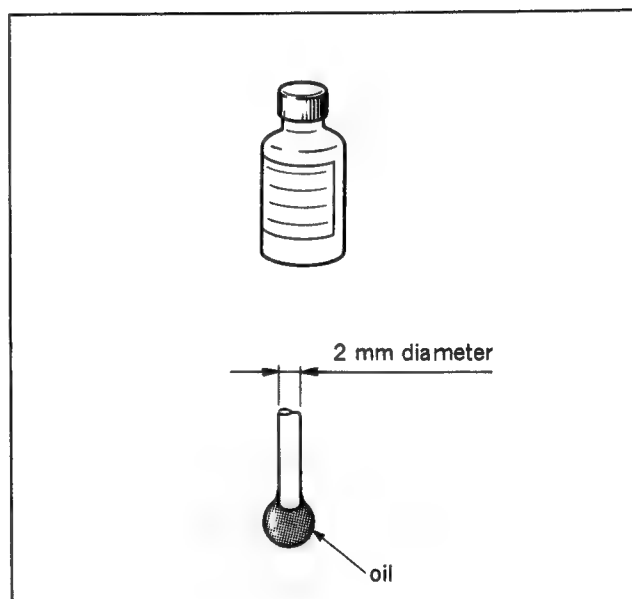

Fig. 3-5-1 Sony Oil
- One drop of oil means the amount which sticks to a 2 mm diameter rod, as shown in Fig.3-5-1.